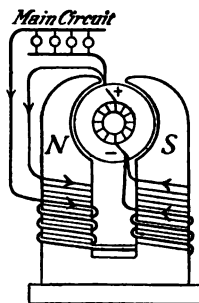

FIG. 287.—A compound-wound dynamo.
C. the compound wound dynamo. This dynamo has both shunt and series coils upon its fields. (See Fig. 287.) If more current is drawn into the main circuit with this dynamo, the series coils produce a stronger field compensating for the weaker field of the shunt coils. So that uniform voltage is maintained. The compound wound generator is therefore the one most commonly employed.